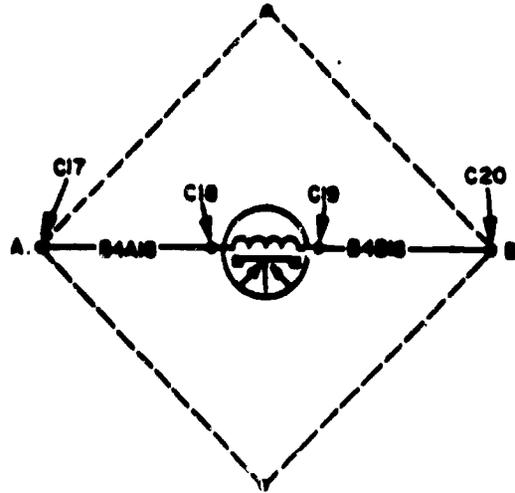

Figure 4.
(1) Refer to figures 4 and take the following resistance readings at the checkpoints indicated. Indicate if it has continuity, resistance, is shorted, or open.
Correct responses for figure 4:C-17 to C- 18 Continuity .C-19 to C-20 Open .C-18 to C-19 Resistance .